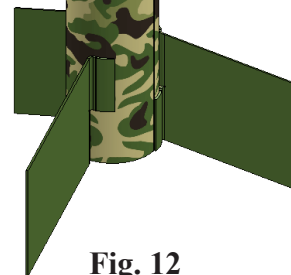

Fig. 12
Step 4. Place Nose Cone as positioned in **Fig. 12**.
Step 1. Zoom in on **Nose Cone and top of Body Tube**, **Fig. 12**. To zoom, place the cursor over the Nose Cone and Top of Body Tube area and spin the wheel on mouse back. While spinning the wheel keep cursor on Nose Cone and top of Tube.